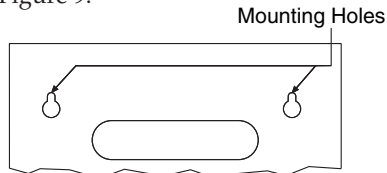

Figure 9. Mounting Holes on the Rear of the Recorder
4. Hang the recorder using the keyhole slot mounting holes provided on the back side of the recorder. Refer to Figure 9.